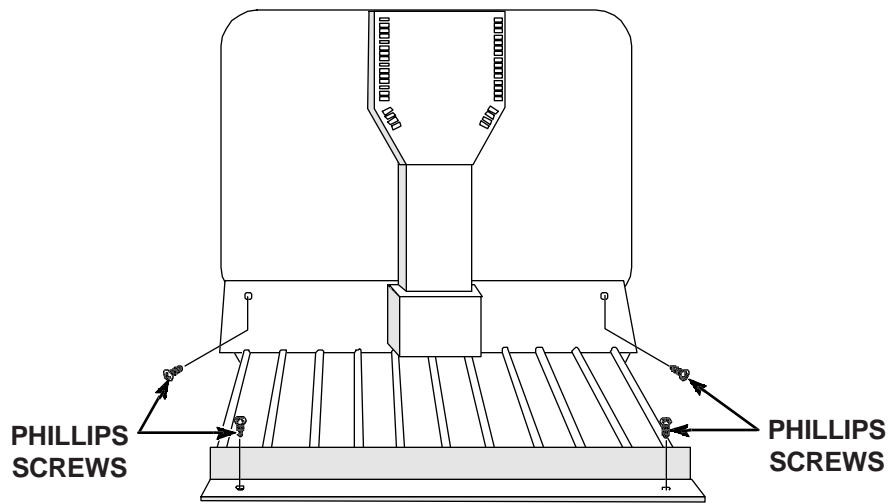

Fig. 51
2. Remove the two (2) Phillips screws (or plastic “canoe” clips) from the front of the freezer’s inner floor. (Fig. 51)
4. Remove the two (2) Phillips screws from the rear of the freezer’s inner floor and remove the floor. (Fig. 51)